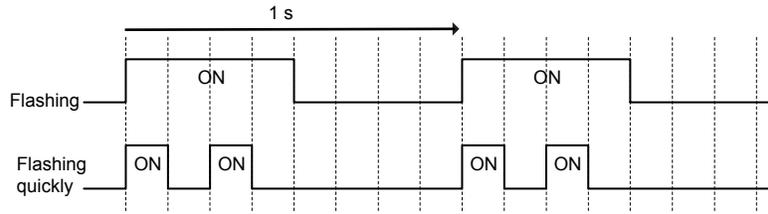

Figure 4.3 RUN LED Status and Meaning
- <1> Refer to **Figure 4.3** for the difference between “flashing” and “flashing quickly”.